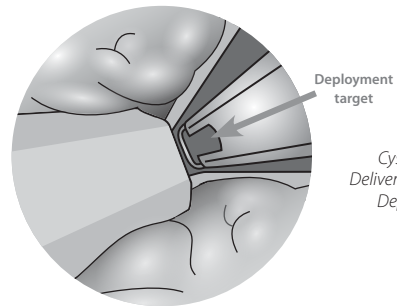

Figure 4
- 2.7. Position the UroLift® Delivery Device such that the Deployment Target (**Figure 4**) is against the target prostatic lobe in the anterolateral direction.